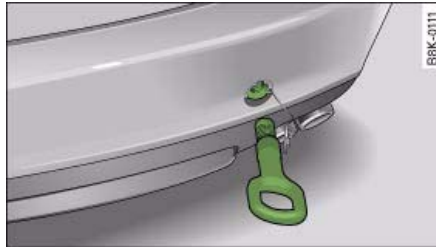

Fig. 252 Rear bumper:
- To detach the cover cap from the bumper, firmly press the lower part of the cap inwards to release it ⇒ fig. 252.